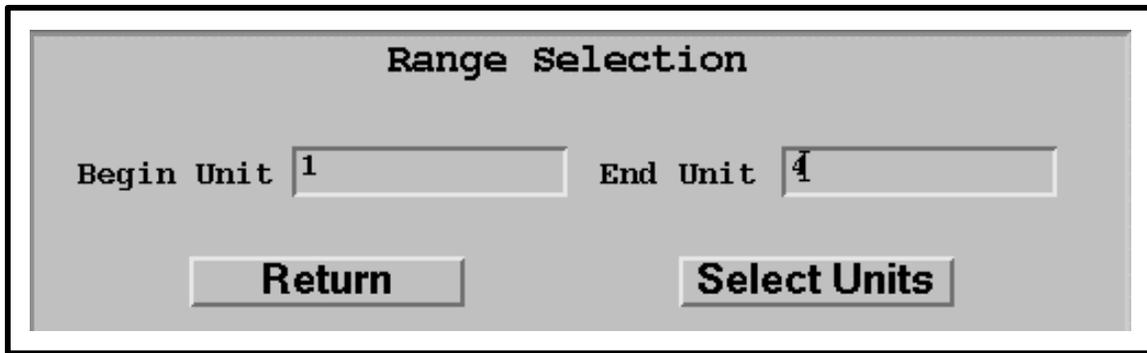

Figure 39. Range Dialogue Box
- The **Range Dialogue Box** (Figure 39) is displayed.